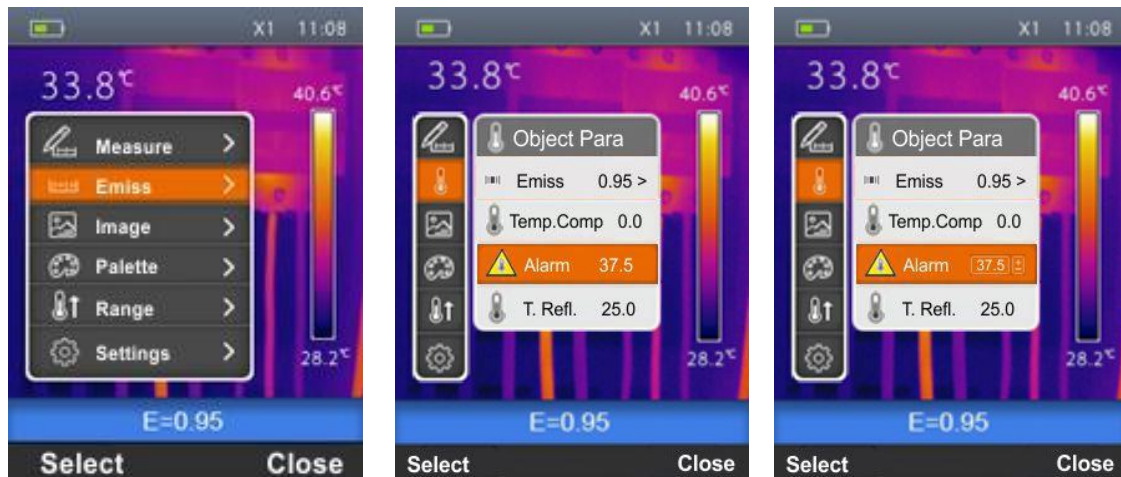
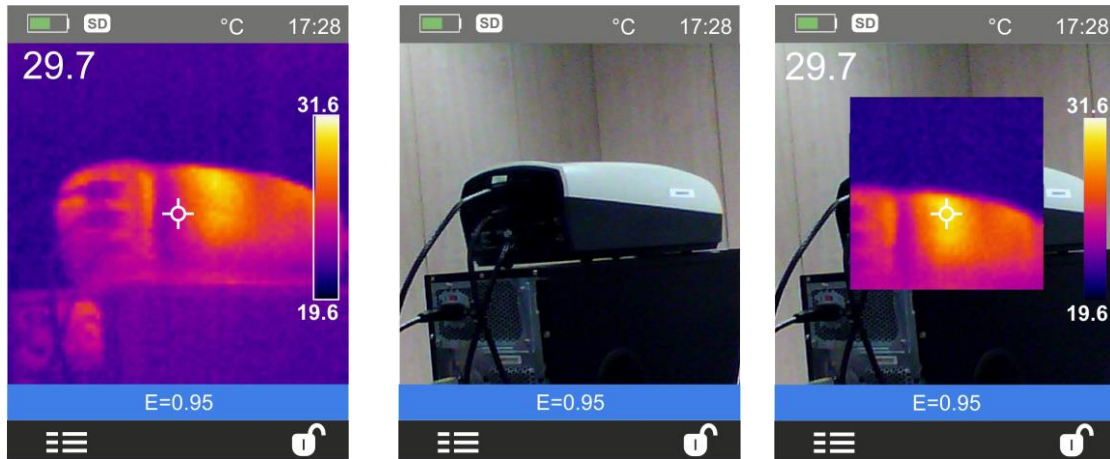

Fig. 20: Setting temperature compensation on the instrument
Fig. 23: Image display modes
1. Select the item "Emiss" with the keys $\oplus$ or $\ominus$ and press the key . The screen Fig. 20 – Central part is shown on the display.
2. Use the keys $\oplus$ or $\ominus$ to select the item "Alarm" and press the key "Select". The screen Fig. 20 – Right side is shown on the display
2. Use the keys $\oplus$ or $\ominus$ to select the desired display mode among the options: **IR** (infrared image), **Visual** (visual image), **MIX** (fusion of IR image into the visual one) (see Fig. 23) and **AUF** (Auto Fusion function – see § 5.2.4.1) (see Fig. 20)